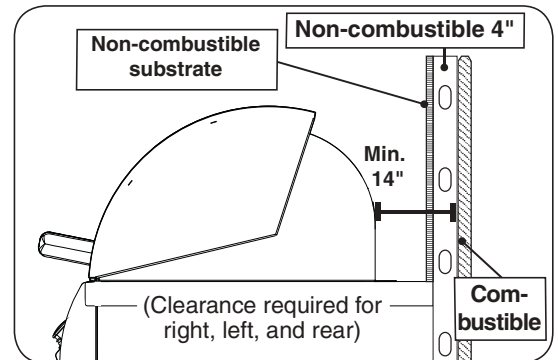

Fig. 11-3 Clearance 'B' Diagram
B. Clearance between grill and a protected combustible wall (i.e. a non-combustible wall in front of a combustible wall to serve as a barrier. This can be accomplished by brick, or a metal stud finished with non-combustible substrate, see Fig. 11-3)